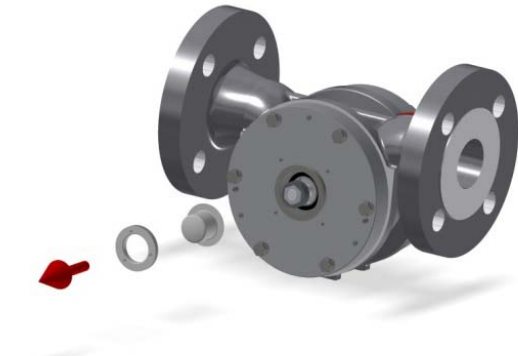

Figure 22 – Removing the magnet cap
2. Take of the magnet cap, as shown in Figure 22.